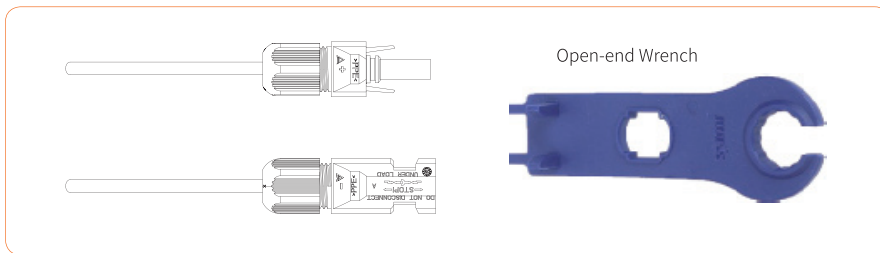

Figure 4-12
⑤ Insert the positive and negative cables into the corresponding positive and negative connectors, pull back the DC cable to ensure that the terminal is tightly attached in the connector.
⑥ Use an open-end wrench to screw the nut to the end to ensure that the terminal is well sealed, as shown in Figure 4-12: